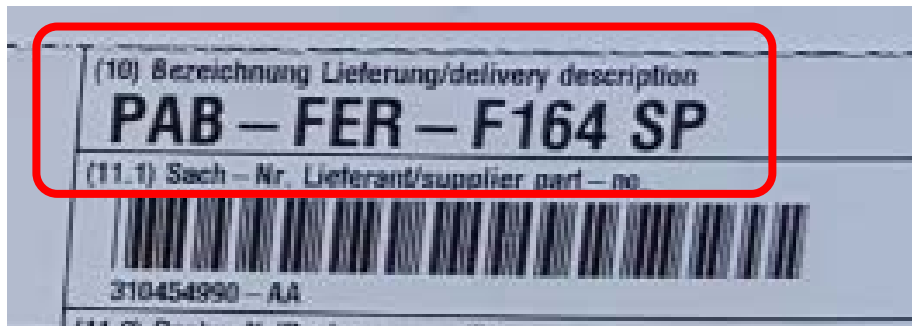

Fig. 1
- 1.1 Remove the label with the airbag identification details, shown in Fig. 1, from the new airbag and affix it in the relative space in a printout of the “Passenger side airbag module replacement traceability form”, included in this booklet.
The new component is marked with a specific label bearing the phrase "PAB-FER-F164 SP" on the packaging, as seen in Fig. 1.